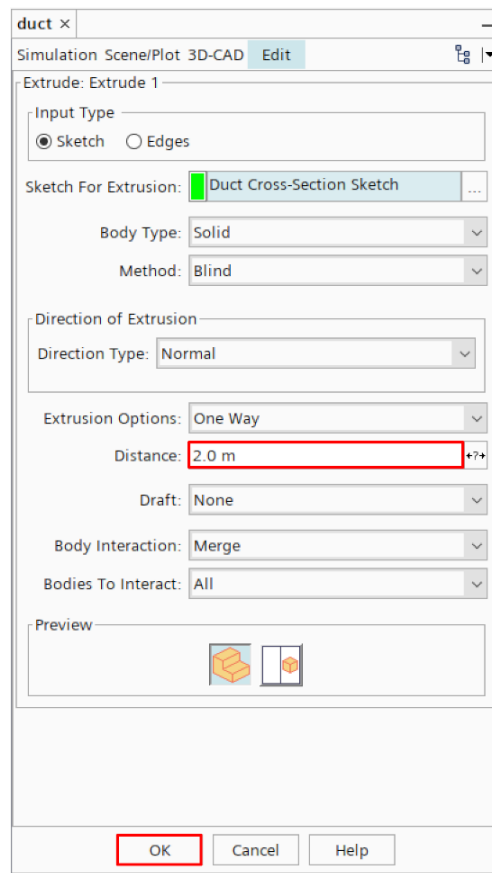

Figure 11: Extrusion of cross-section sketch in explorer window.
13. The Extrusion Window will open in the Explorer Pane. Change the distance to 2.0 [m] and click OK. This can be seen in Figure 11.